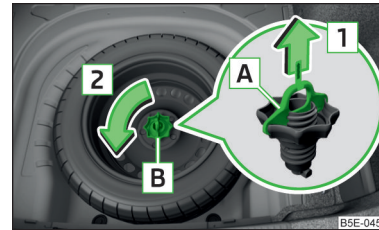

Fig. 198
The wheel is located in a well under the floor covering in the boot and is fixed in place with special bolt **B** » Fig. 198.
- Remove locking **A** in the direction of arrow **1** » Fig. 198.
- Screw in nut **B** in the opposite direction to arrow **2** » Fig. 198.